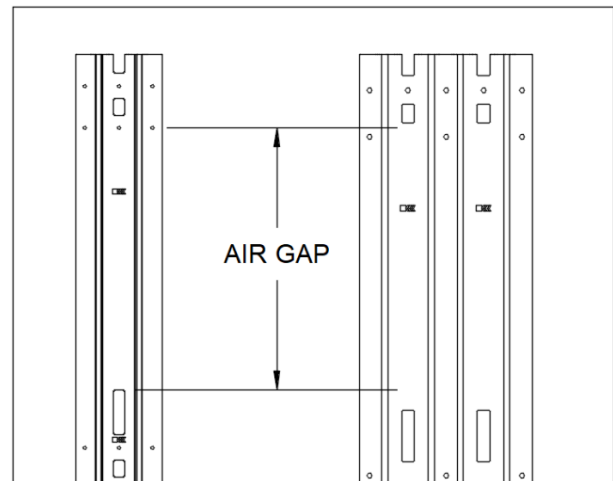

FIGURE 3
- **Composite/Plate Trailers:** Install fasteners in the track flanges only through the trailer plate (**FIGURE 3**). Fastener maximum spacing is 6".